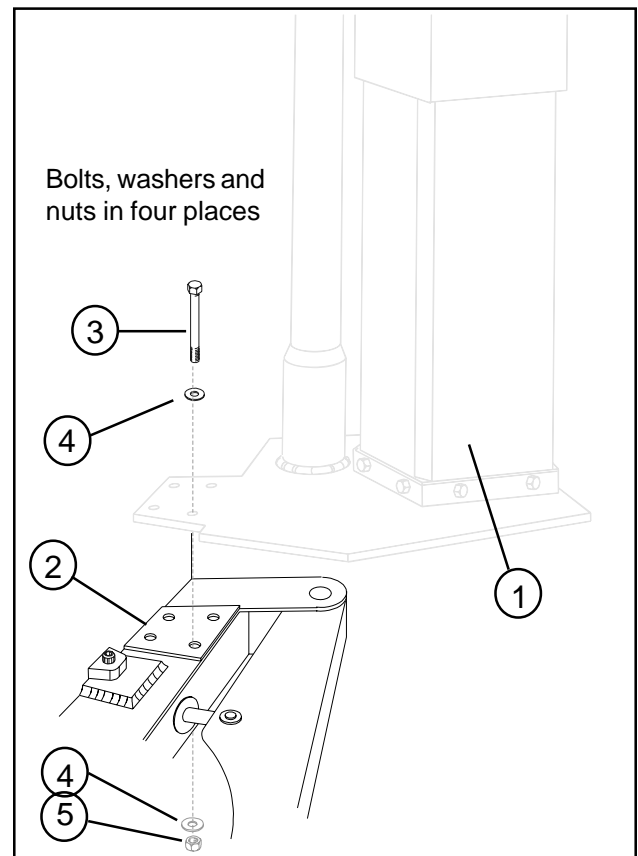

Figure 2 - With template/spacer in position, place the device onto the breaker arm beam. Secure with supplied hardware.
C. Lift the device with an appropriate lifting device, (engine hoist, fork lift) and a sling belt of sufficient capacity - 1100 lbs. Attach the device (#1 in Figure 2) to the bead breaker beam (#2) with the bolts (#3), washers (#4) and nuts (#5) supplied.